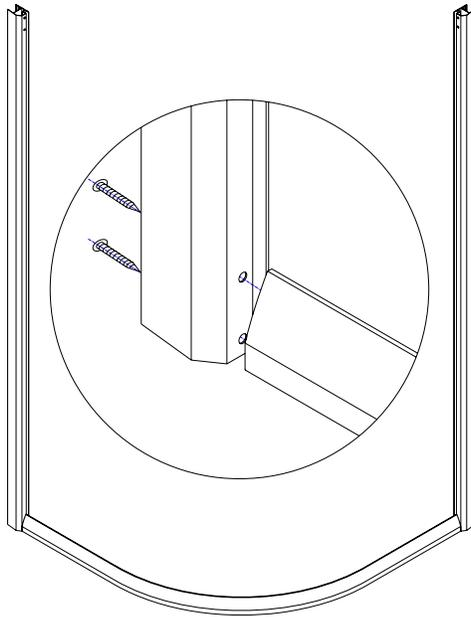

Fig 2
4. Secure the two vertical profiles and the bottom guide rail with ST4.2×30 round head self tapping screws; (fig 2)